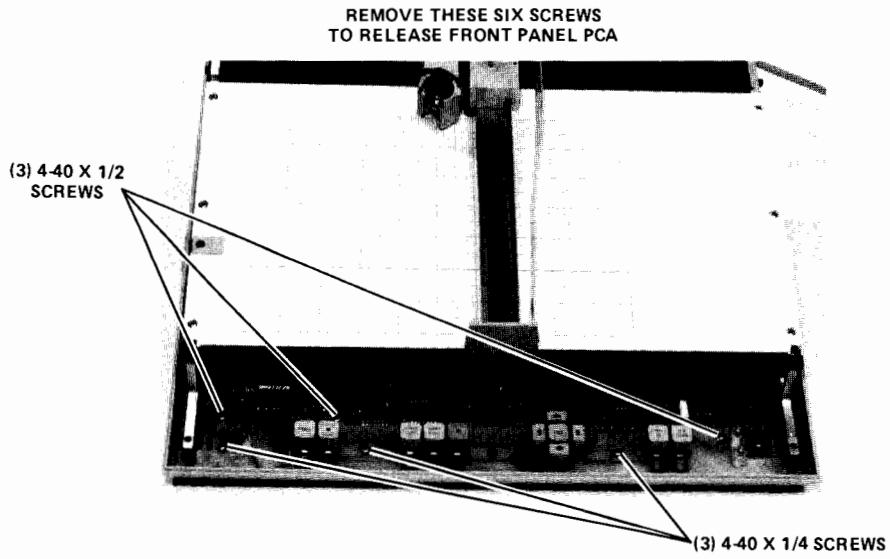

Figure 6-26. Front Panel PCA Removal
(See Figure 6-26.)
- d. Remove the front panel PCA. (See Figure 6-26.)